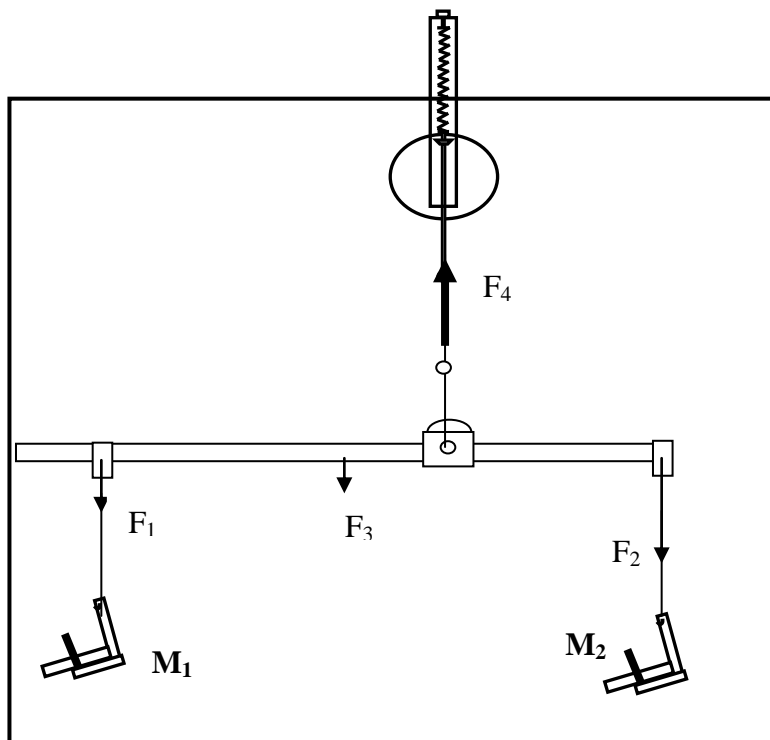

Figure 3.5: Equipment Setup
2. Using the technique described in part a, find the center of mass of the balance beam, and mark it with a pencil. Then set up the equipment as shown in Fig.3.5. (The retainer can be pulled from the pivot Mount and hung from the metal rings, as shown.) By supporting the balance beam from the spring balance, you can now determine all the forces acting on the beam. As shown in the illustration, these forces include: